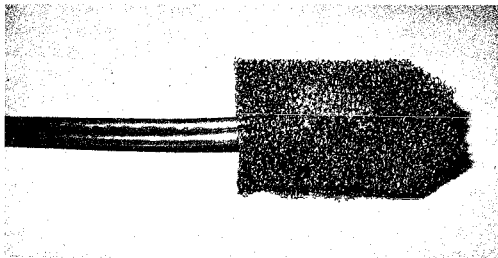

Fig. 8
6.02 Slide the polyurethane boot over the joined ends of the conductors as shown in Fig. 8. Care must be taken to ensure that the joined ends of the conductor do not protrude from the open end of the polyurethane boot.